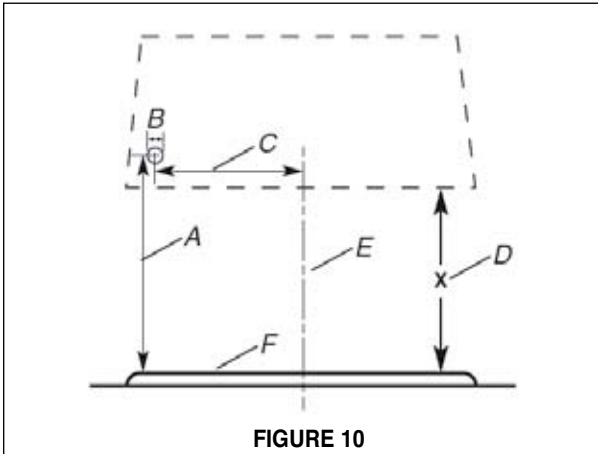

FIGURE 10
3. Determine and mark the location where the hole will be drilled for the power supply cable to be run through the wall. See **FIGURE 10** for locating the power supply. Take the distance from the cooktop (F) and hood install height (D), and add 3" (A). Mark and drill a hole (B) = 1 1/4" diameter on the wall on the left side of the hood (C) 7 1/4" for 30" hoods, and 8 1/4" for 36" hoods from the center line (E).